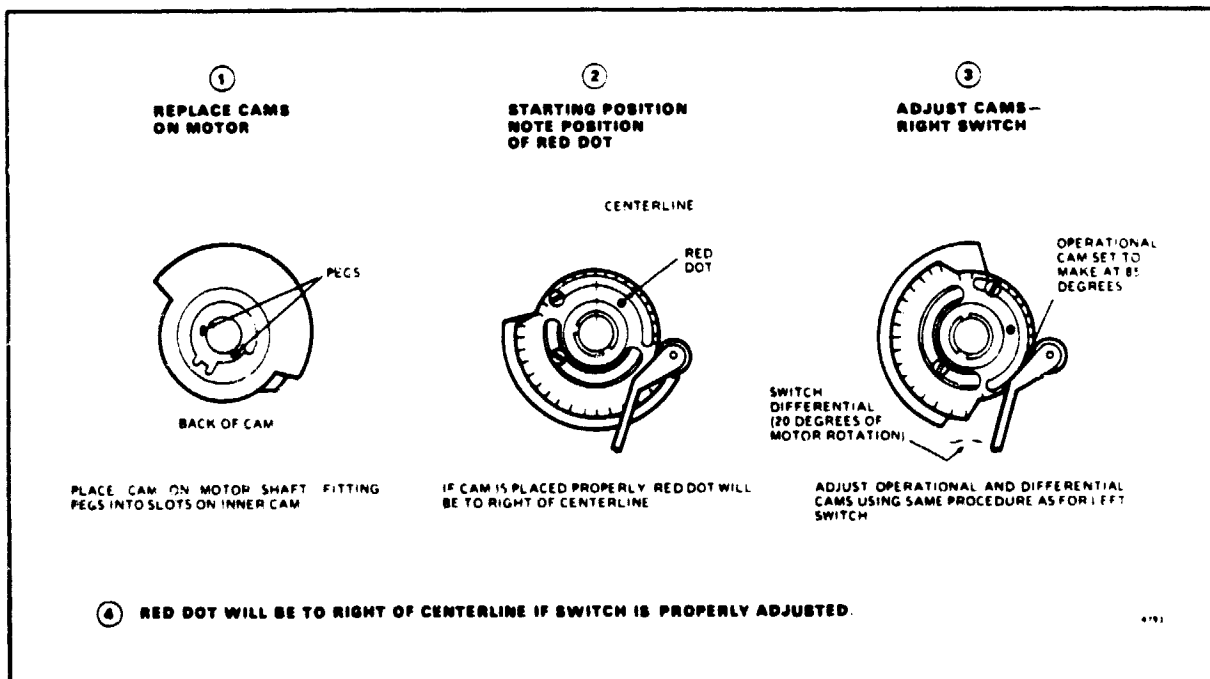

FIG. 11—ADJUST MAKE AND BREAK POINTS OF RIGHT AUXILIARY SWITCH (M941D ONLY).
6. On the M941D, put right switch cams on motor shaft and adjust right switch. See Fig. 11.